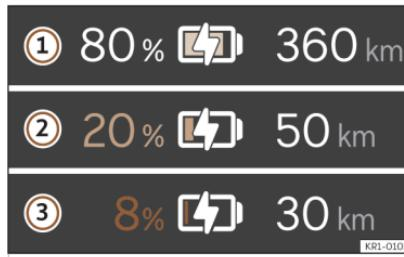

Fig. 2 On the digital instrument cluster: range and reserve indication.
The current state of charge of the high-voltage battery is indicated by the  symbol on the digital instrument cluster **>>> Fig. 2 ①**. The battery symbol will be more or less full depending on the state of charge of the battery.
The vehicle range is displayed in kilometres (km) or miles (mi) depending on the selected setting **>>> Fig. 2 ②**.
Reserve area **>>> Fig. 2**